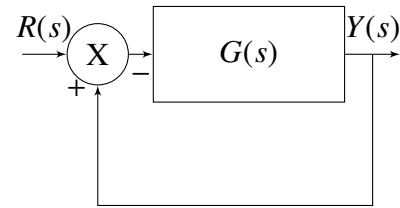

Fig. 8.1
8.1. For a unity feedback system shown in Fig 8.1